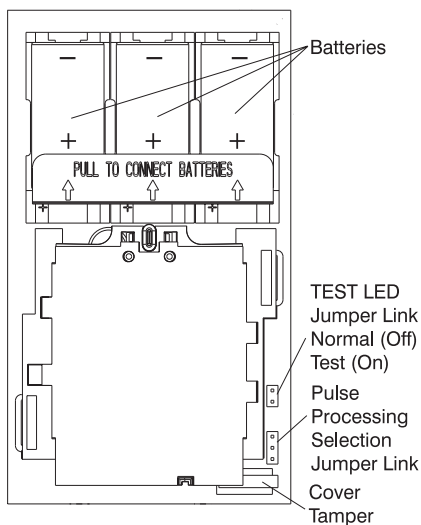
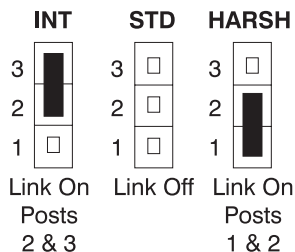

Figure 4. Printed Circuit Board (PCB)
Figure 5. Pulse Processing Options
3. To *replace* the batteries, remove the old batteries from the holder. Then, **observing correct polarity**, install three new Lithium batteries into the battery holders, as shown in Figure 4. Make sure the batteries are firmly seated.
See Figure 4 for location of Pulse Processing selection jumper link.
To program the detector, place the LED jumper in the TEST position (see Figure 4), the Pulse Count jumper in the STD position (see Figure 5), batteries installed and cover on. Temporarily cover the lens (a cloth will do) to prevent any activation by the detector.
2. Enable the LED by placing the jumper link in the TEST position (see Figure 4 for jumper location).
4. **After the Walk Test is completed, disable the LED by placing the LED jumper link in the Normal position. Failing to do so will reduce the battery life.** (see Figure 4.)
Remedy: Re-position jumper to TEST position (see Figure 4).